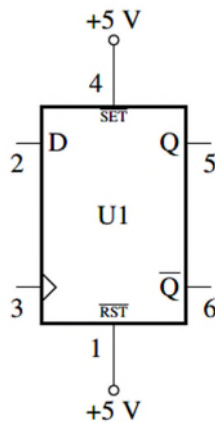

Figure X-5. D-type flip-flop connections
Tie the SET (called PRESET) and RESET (Called CLEAR) pins to +5V (HI) as shown in Figure X-5. Connect the D-input to a slide switch on your breadboard and clock the input with a debounced pushbutton switch. The “normally open” switch connection needs a pull-up resistor to +5V. Tie the inputs for the second flip-flop (the one you’re not using) HI. Check the operation of the flip-flop by verifying that the D-input appears on the Q-output when and only when clocked. Assert (pull low) SET and report what happens. Assert (pull low) RESET and report what happens.